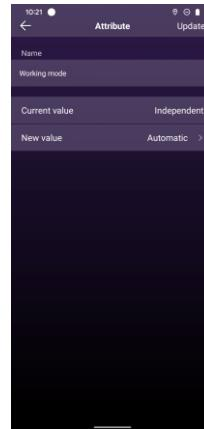
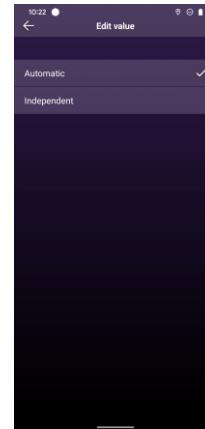

Figure 23
Figure 24
15. The attribute “**Working mode**” is to set the working mode of the device. Tap it to enter setting interface, “**Current value**” means current mode, “**New value**” is to set a new mode, available settings are **Automatic & Independent**, **Automatic** means the 0-10V dimming can be controlled by the motion sensor and light sensor, **Independent** means the 0-10V dimming can not be controlled by the motion sensor and light sensor, and can only be controlled by the 2.4GHz Mesh signal. factory default is **Automatic**. Once set a new value, tap “**Update**” button at upper right corner to save the setting (as shown in **Figure 23 & Figure 24**).